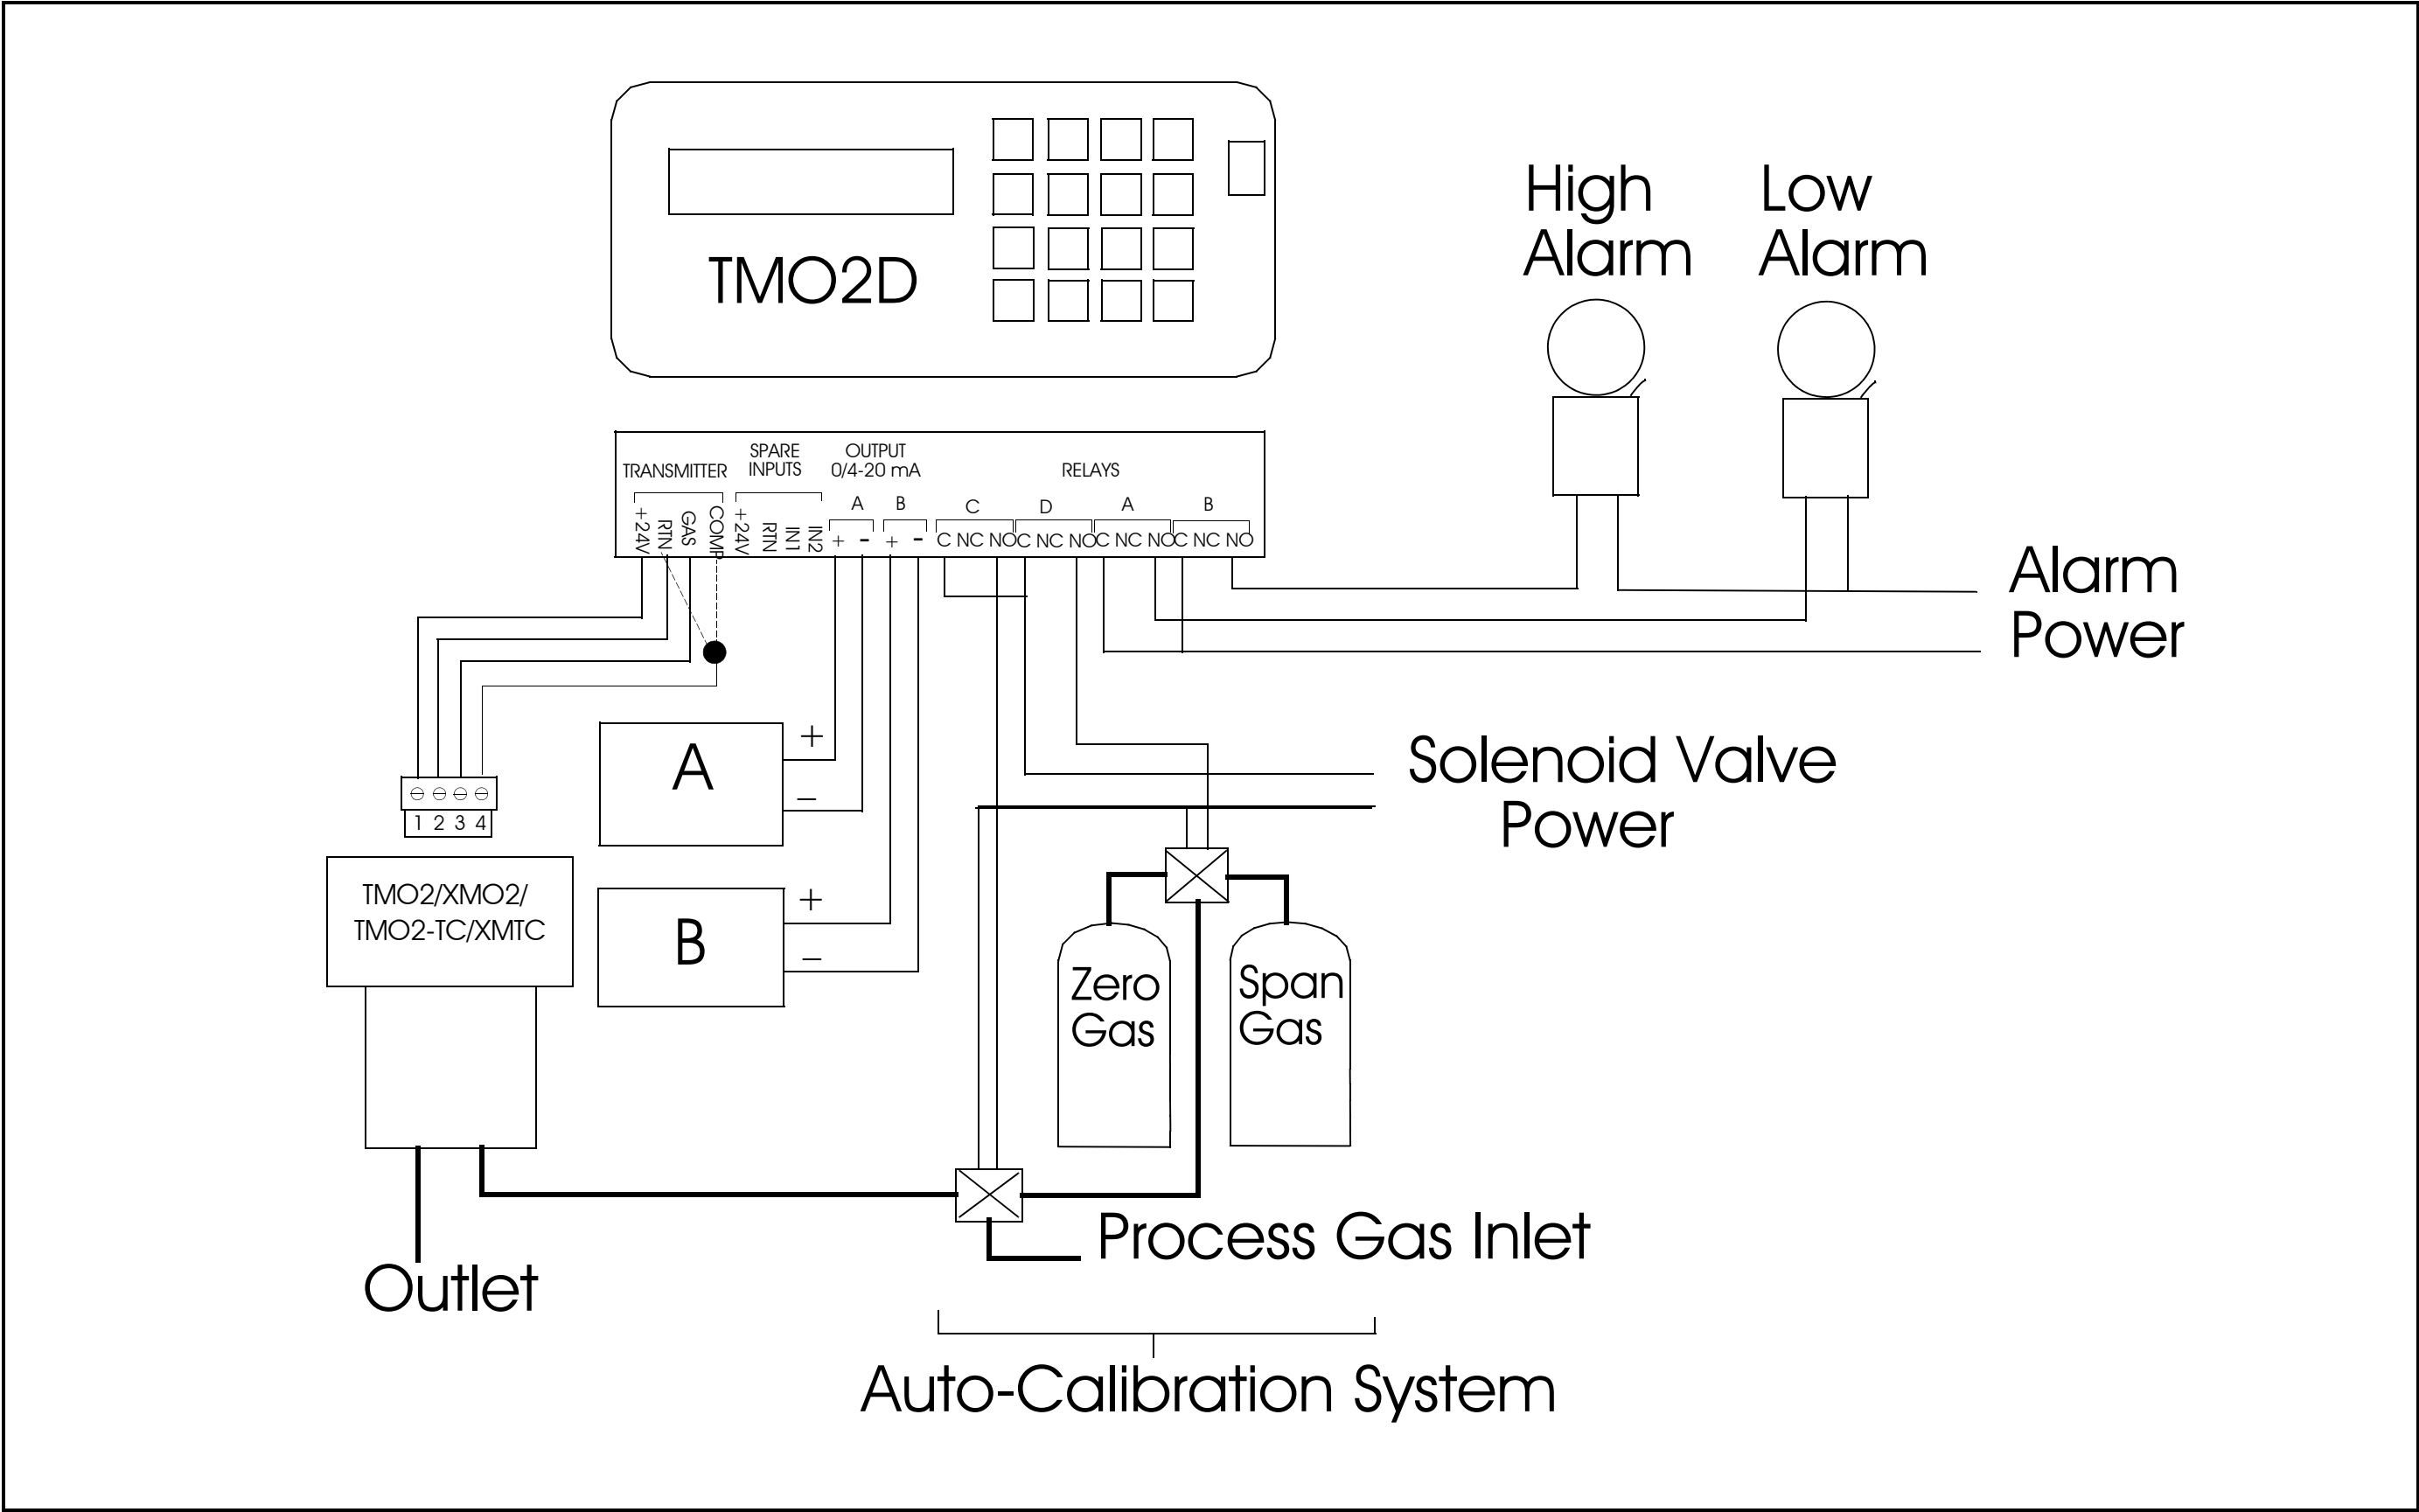

Figure 2-10: TMO2D Transmitter and Display Wiring Options (from drawing 701-030, sheet 2 of 2)
5. Connect the other end of the cable in a similar manner to the TMO2D. Refer to Figure 2-10 on page 2-21 for TB1 location.
If users wish, they can wire the TMO2D Analyzer to 4 to 20-mA outputs, AutoCal systems, and alarms. Figure 2-10 on page 2-21 diagrams the possible wiring connections.